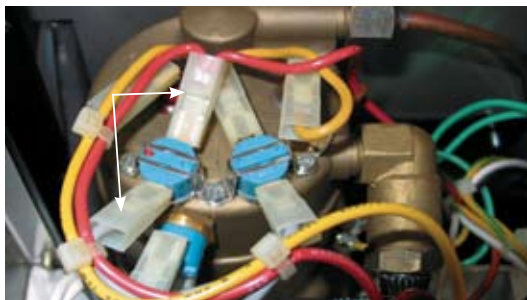

Fig. 2 Removing brew thermostat connectors.
4. Remove wires from brew thermostat. The brew thermostat is the blue cylinder on the left. Unplug both connectors from the thermostat (see Fig. 2).